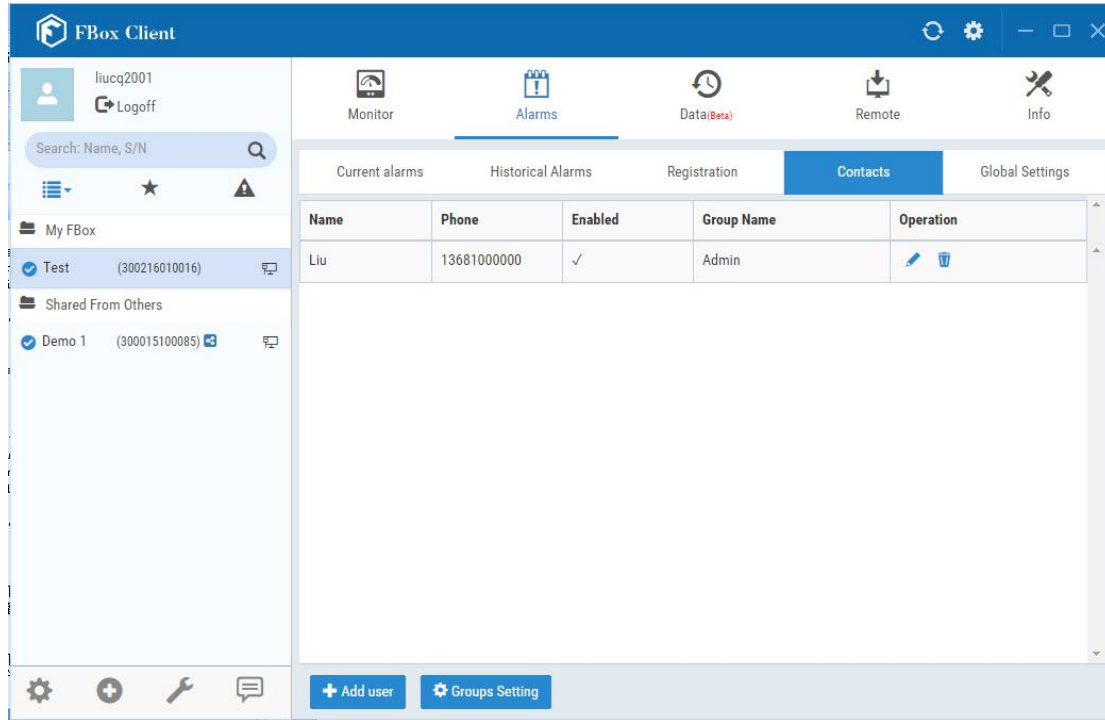

Fig. 4.8-16 View the added user information
(2) After adding the user information in the "Set notification target" dialog and click the "OK" button, the user information will be displayed in the "Contacts" subtab page, as shown in Fig. 4.8-16.